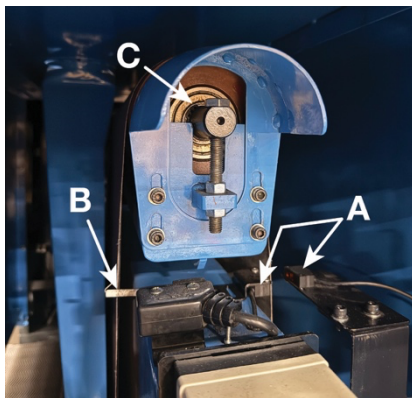

Figure 9-19
4. With the tension released from the abrasive belt, grab the belt and pull it back towards you until its edge crosses the beam of the belt-tracking sensor set (A, Figure 9-19). NOTE: When sliding the abrasive belt towards you, do not make contact with the ceramic sensing tip of the abrasive belt mistracking limit switch (B, Figure 9-19).
If the sensor is operating properly, you will see the tension roller pivot to the right, attempting to move the abrasive belt away from the optical sensor (C, Figure 9-19).